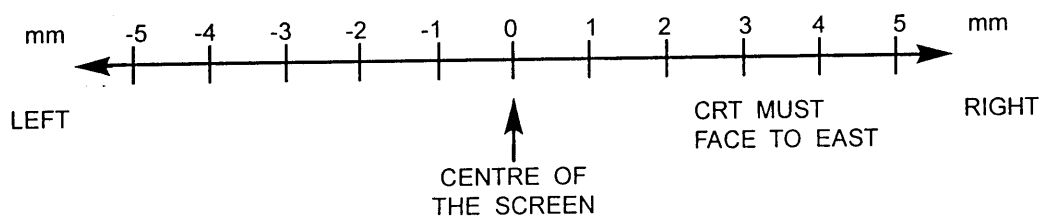

FIG. 13
4. Adjust VR102 to obtain the picture at centre. ( specification show as below Fig.13 )